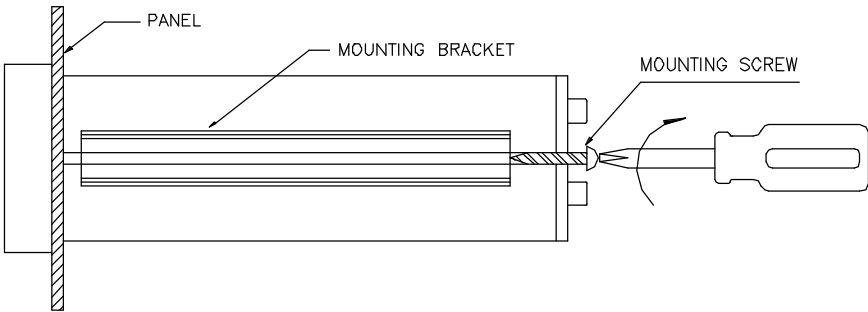

Figure 2
2. Remove the mounting assembly from the controller and insert the controller into the cutout. (**figure 2**)